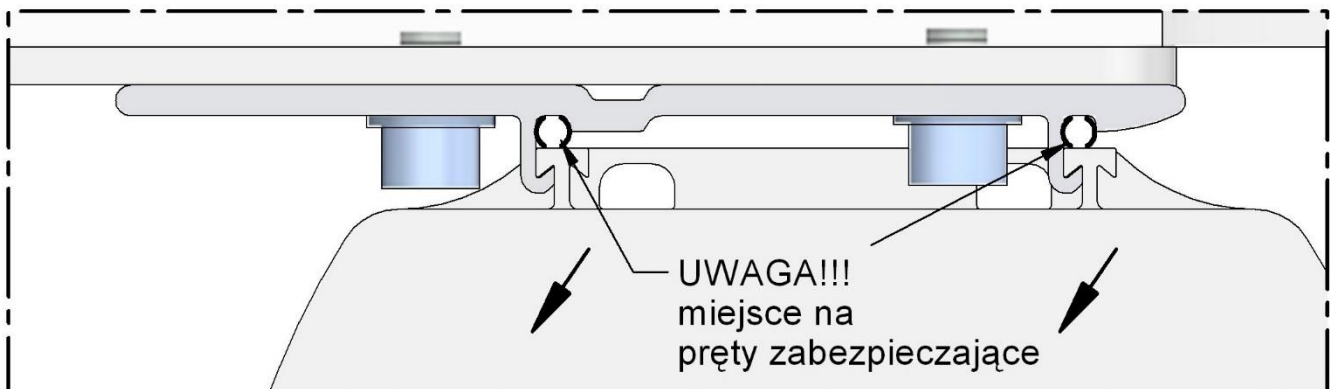

Figure 8
6. Lock the suspended screen housing using the safety/locking bars by sliding them in the groove between the bracket and the housing. Figures 8, 9a and 9b show the insertion sequence and location.